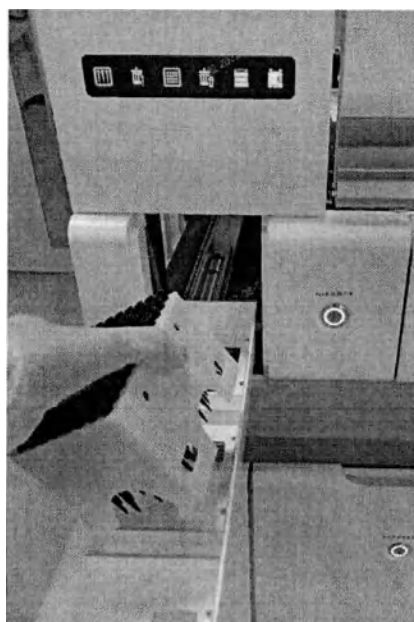

Fig. 4.2-2. Loading new disposable tips
5. Grasp both sides of the new tip assembly and place in a free position in the sliding compartment (see Figure 4.2-2).